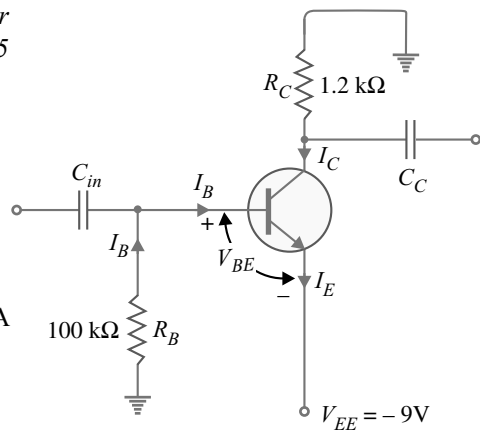

Fig. 7.46
**Example 7.39.** Find the operating point for the circuit shown in Fig. 7.46. Assume  $\beta = 45$  and  $V_{BE} = 0.7 \text{ V}$ .